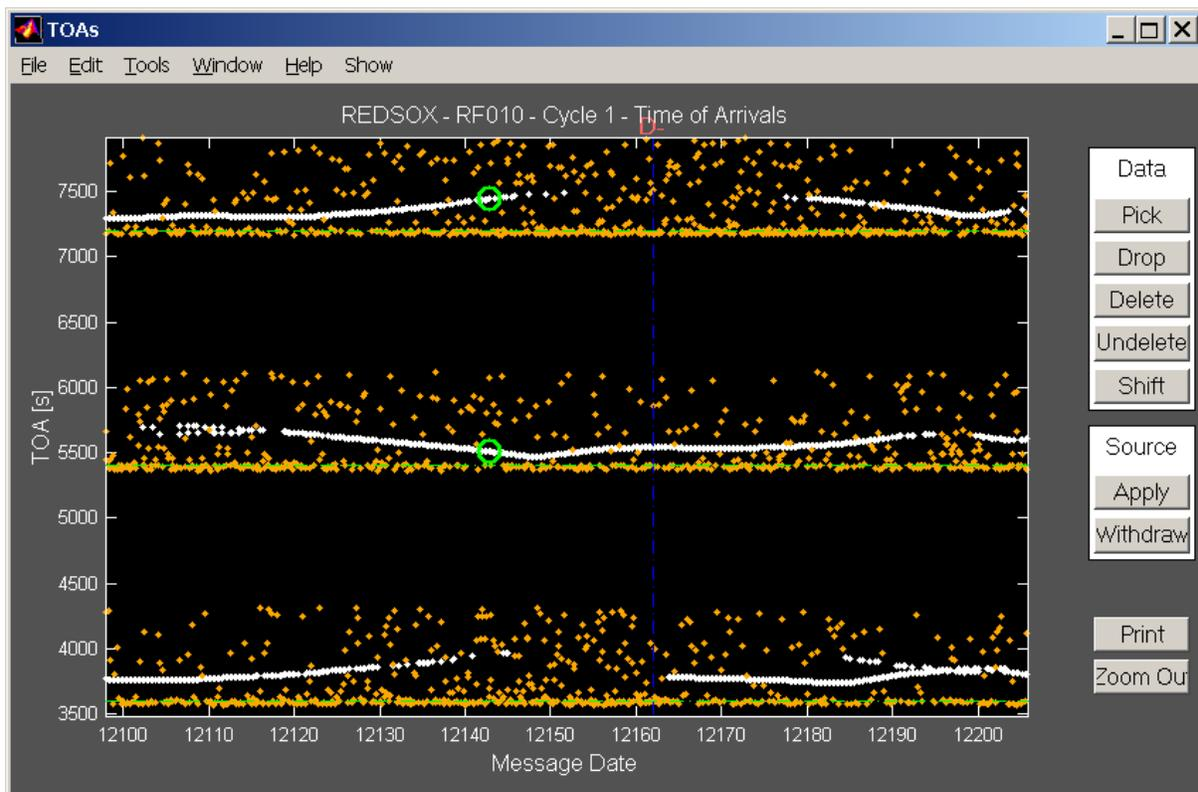

Figure 11: Magnified plot of Time of Arrivals, showing those used in a questionable point.
Choose Show → Data → All TOA from the cascading menu and then select and apply the TOA values of your choice for each sound source using the appropriate buttons from the side toolbar labeled “Data” (“pick”, ”drop”, *etc.*, described above). Use the “zoom” feature to permit working on one listening window at a time (See Figure 11 for an example of a magnified view of a TOA-editing window.). You can also use the Show → Grid toggle to apply a grid to the TOA plot, which will help to identify the correct start and end Julian days of each sound source.
- Track → TOA – place crosshairs over a questionable point (“zoom” feature will help); and left-click to mark it with an open circle. Left-click again to bring up the TOA-editing window. The TOAs with which that position was calculated are marked with open circles (Figure 11). You can pick the bad TOA and withdraw it (using “polygon”). Then hit "Track" again to rerun the improved data.